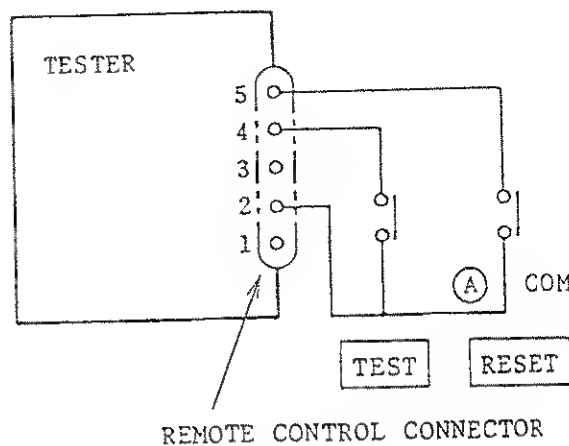

Figure 4.5
- ① By controlling the TEST and RESET contacts shown in Figure 4.5, the test voltage can be on/off-controlled in the same manner as done locally at the instrument front panel.
- ③ Logic elements (transistors, FET's, or photocouplers) may be used instead of the switches in Figure 4.5. The signal status for such operation is shown in Figure 4.7. The input conditions of this instrument for such operation are as follows:
- ④ As for the elements to be connected to the Tester, the use of photocouplers as shown in Figure 4.7 or relays as shown in Figure 4.5 would be advantageous from the viewpoint of preventing erroneous system operations which could be caused by noise. Although the Testers are incorporated with the various provisions to guard it against erroneous operations caused by noise generated by itself or its related devices, it is most recommendable to take full attention to prevent noise when setting up the measuring system.